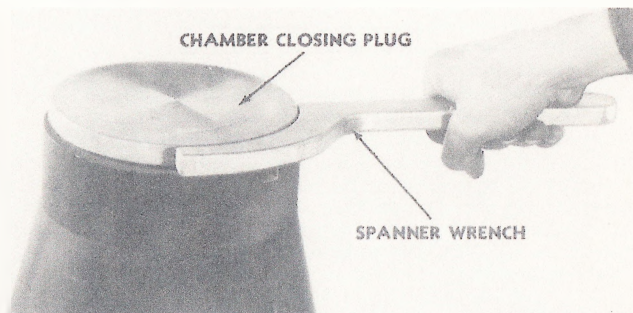

Fig. 26. Removing plug, using spanner wrench.
g. A chamber plug (fig. 26) is supplied with the chamber and serves as a thread protector when the mortar is disassembled.